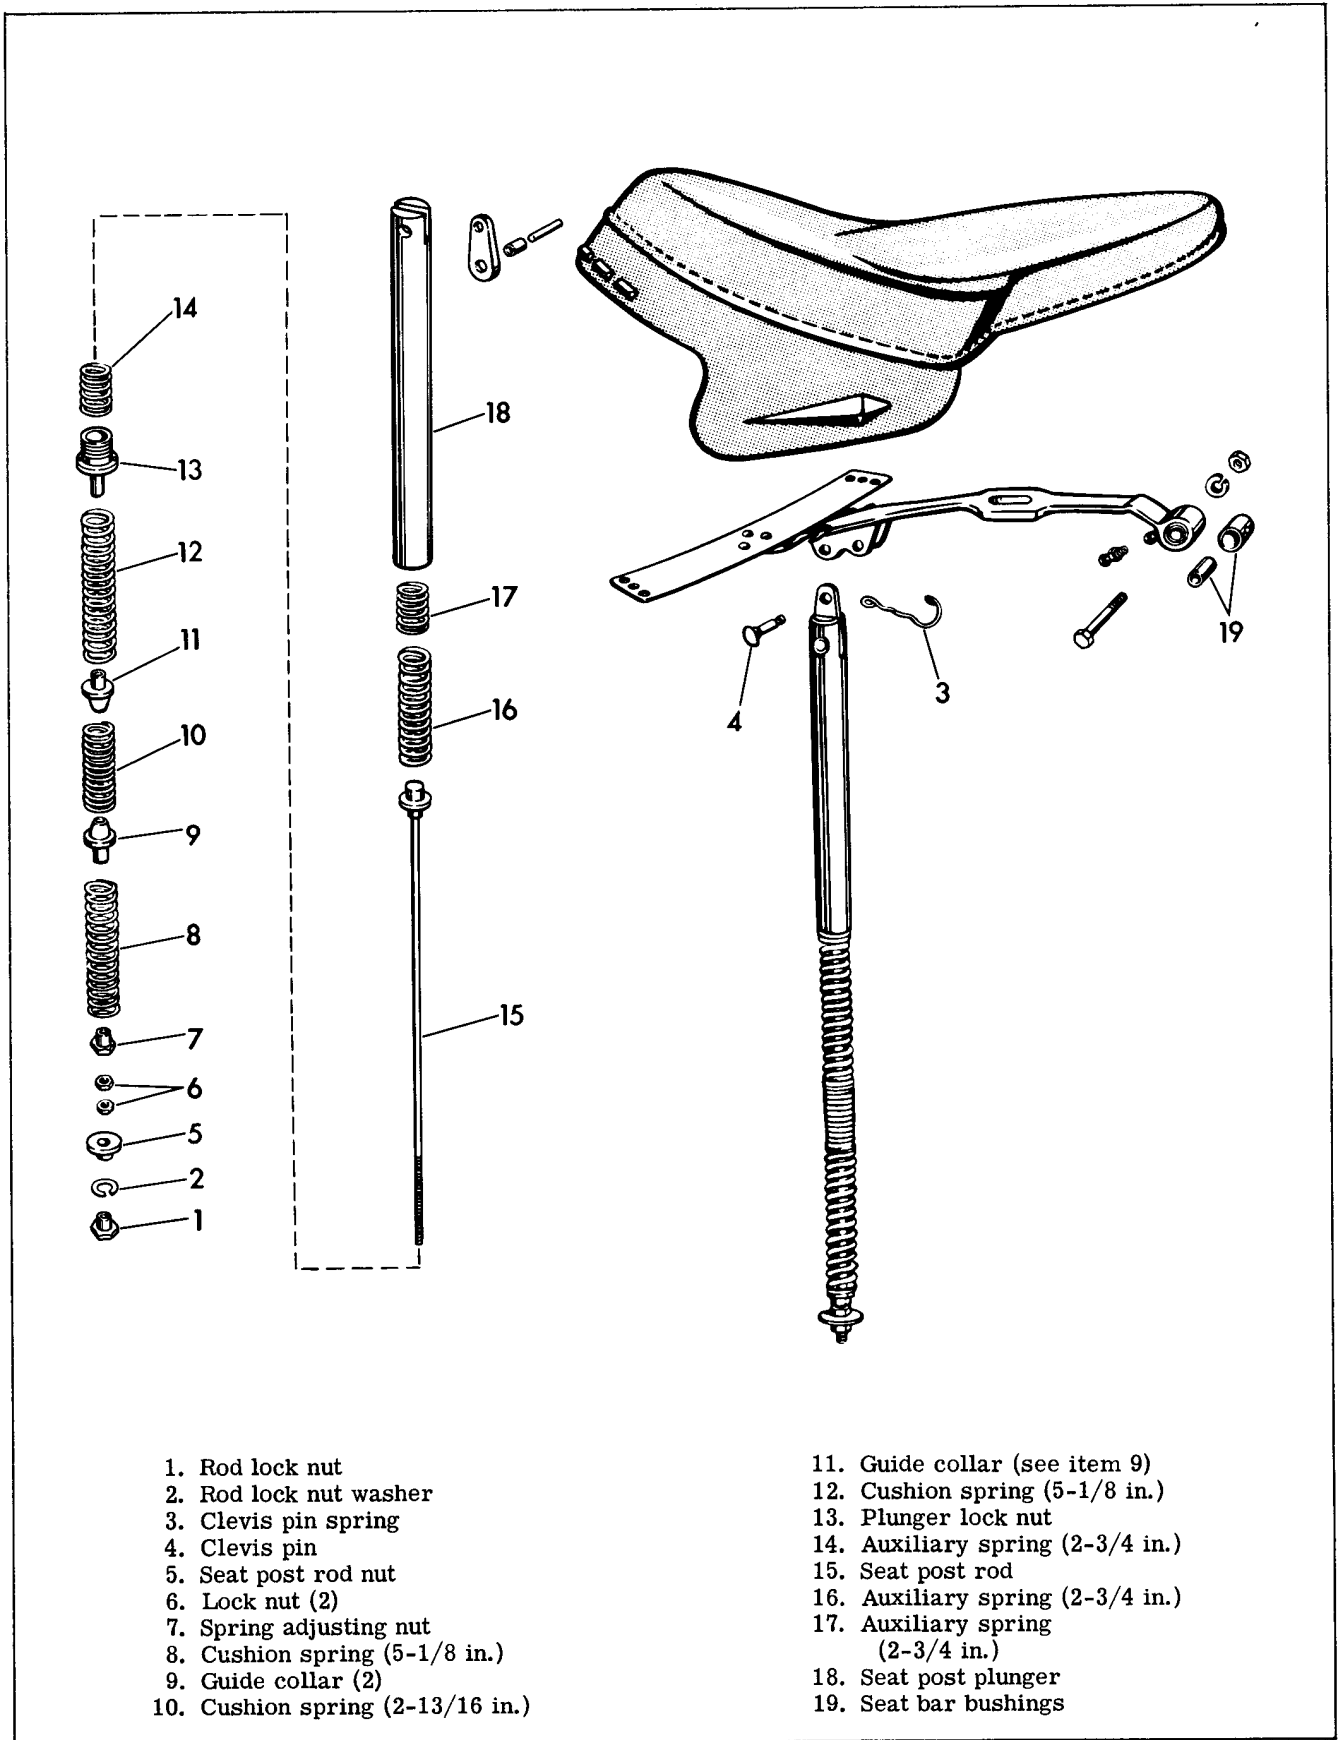

Figure 2-47. Seat Post - Exploded View
### DISASSEMBLING SEAT POST (Figure 2-47)
Wash and air dry all parts. Inspect for broken or "set" springs. New spring length appears in Figure 2-47 listing. Replace seat bar bushings (19) if worn appreciably.
### ASSEMBLING SEAT POST (Figure 2-47)